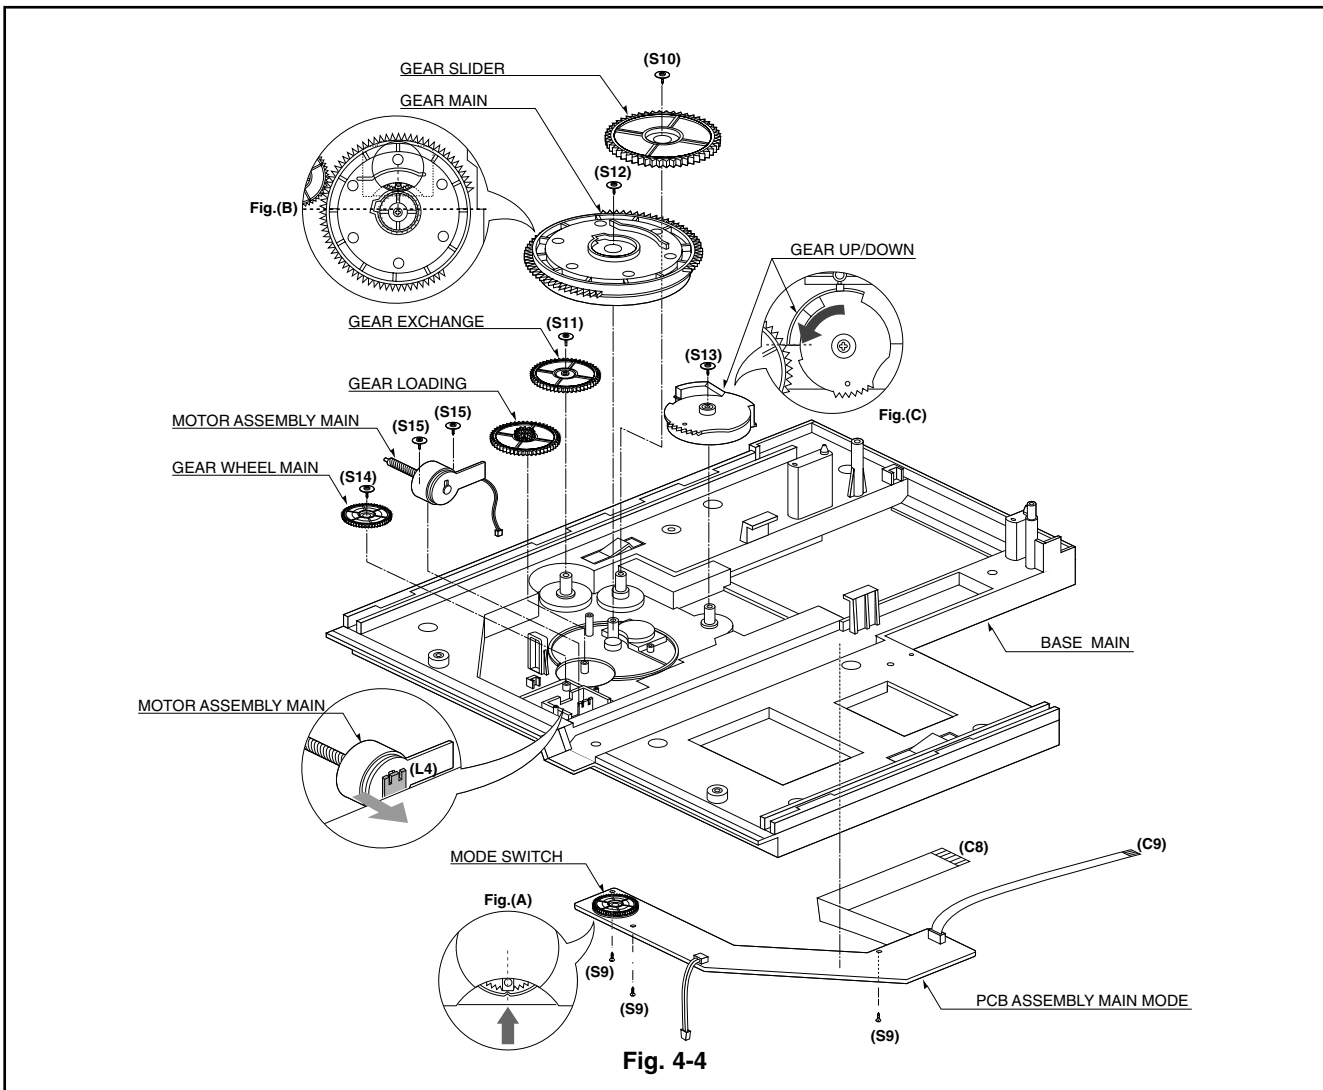

Fig. 4-4
4. Base Assembly Main(Fig. 4-4)